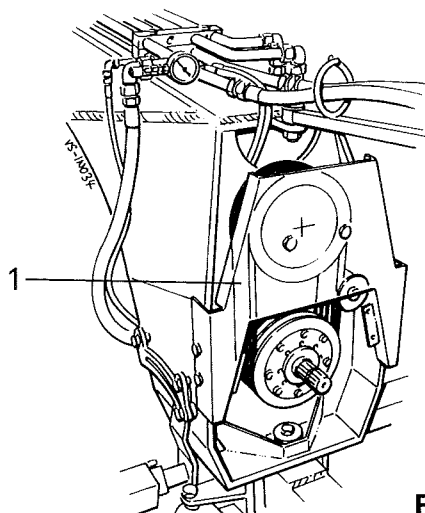

Figure 9
Mechanical digger web drive is taken from the tractor PTO via four SPB section 'V'belts (item 1, figure 9). From the top pulley, a drive shaft and Hardy Spicer coupling transmit the power to a gearbox mounted under the central chassis beam. From the gearbox cross shaft, the drive is by chain to the assister drive shaft and then by gear train to the main web shaft, this ensures that the web drive stays exactly in phase eliminating any hunting in the web.
*Overload protection for the digger web is provided by the 'V'belts (item 1, figure 9). Do not overtighten the belts. The belts should be tensioned to drive normally without slipping, but not so great that the belts cannot slip when the drive is obstructed.*